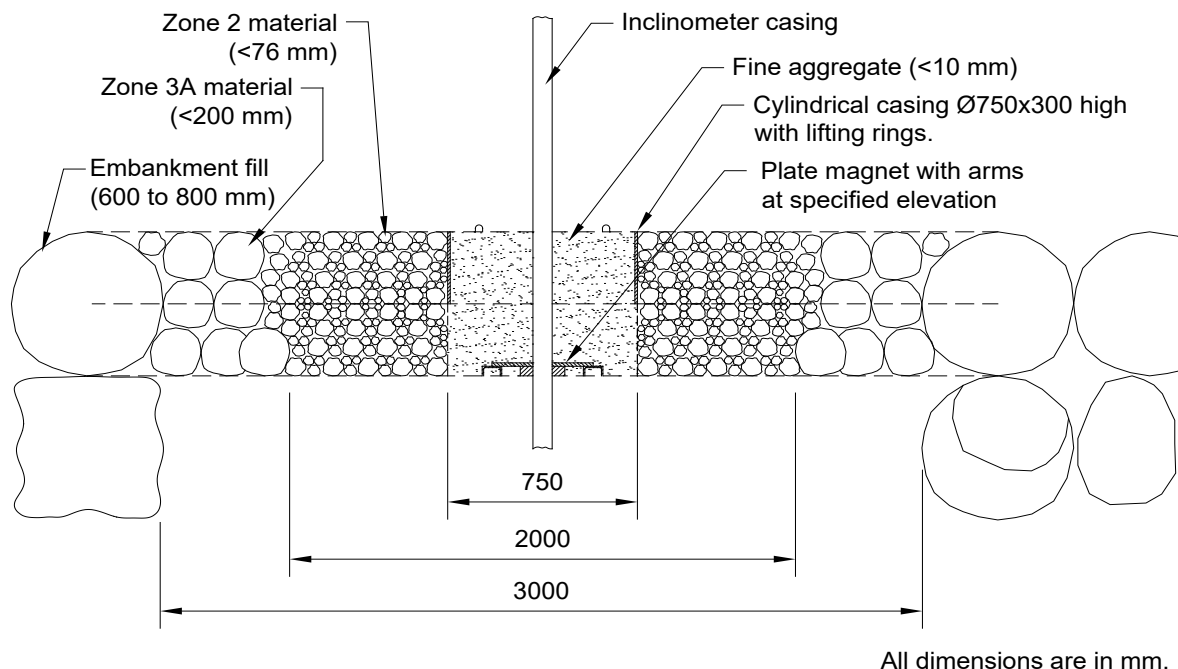

Figure 10-1 Typical details of fill around casing
- Generally following installation instructions in § 9.3 wherever applicable, it is best to surround the inclinometer casing in crest with graded material as per procedure described below. A typical installation is illustrated in figure 10-1.
- h. The sheet steel cylinder is used to place and compact the sand and fine aggregate fill immediately around the inclinometer casing. After the layer is compacted the cylinder is raised up and out of the finished layer in preparation for the next layer. The other two graded zones shown in the figure 10-1 outside the 750 mm diameter cylinder can be carefully hand placed and compacted. It is easier if the outer layer of fill material is placed first followed by the inner layer of fill material.
2. Wait till the level of clay/fill reaches the height/elevation of the plate magnet. Slide the plate magnet from the top to rest on the fill at required locations. Cover the magnet with fill material & compact to the same density as the surrounding fill (refer to figure 10-1). Repeat the process till all the magnets are installed.